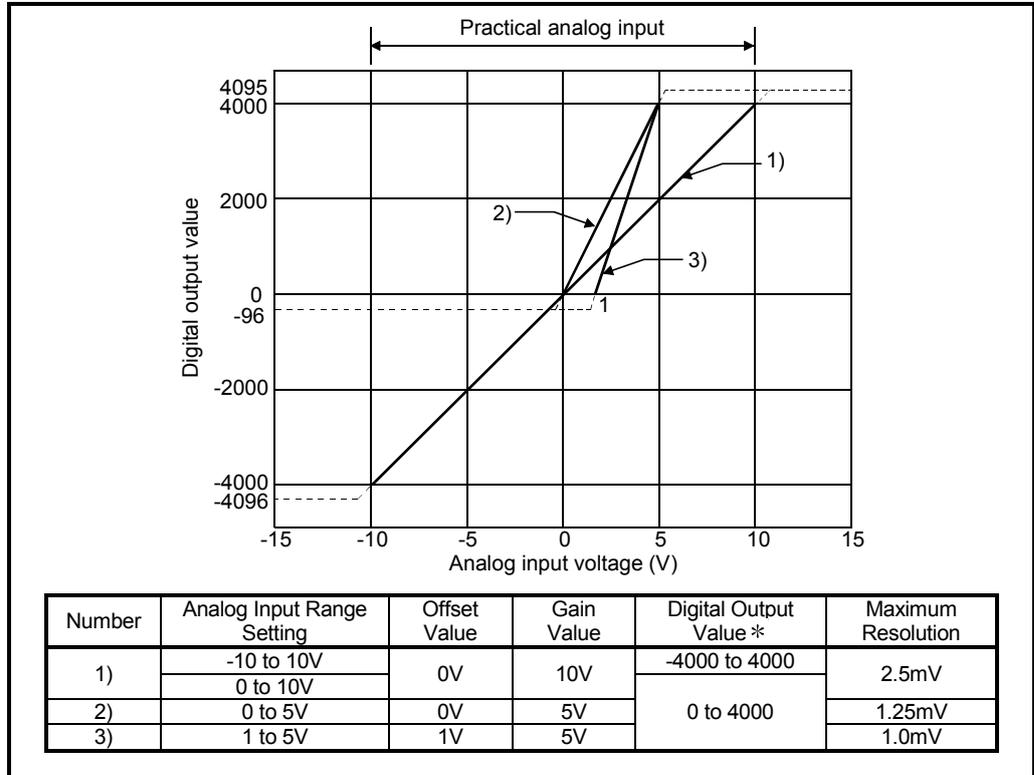

Fig. 3.1 Voltage Input Characteristics
(1) Do not input more than $\pm 15V$. The element may be damaged.
(2) If the analog input provided corresponds to the digital output value* beyond its range, the digital output value is fixed to the maximum or minimum. <ul style="list-style-type: none"> • For 0 to 4000, the digital output value is within a range of -96 to 4095. • For -4000 to 4000, the digital output value is within a range of -4096 to 4095.
(3) Within the analog input and digital output scopes of each input range, the maximum resolution and accuracy are within the performance specification range. Outside those scopes, however, they may not fall within the performance specification range. (Avoid using the dotted line part in Fig. 3.1.)